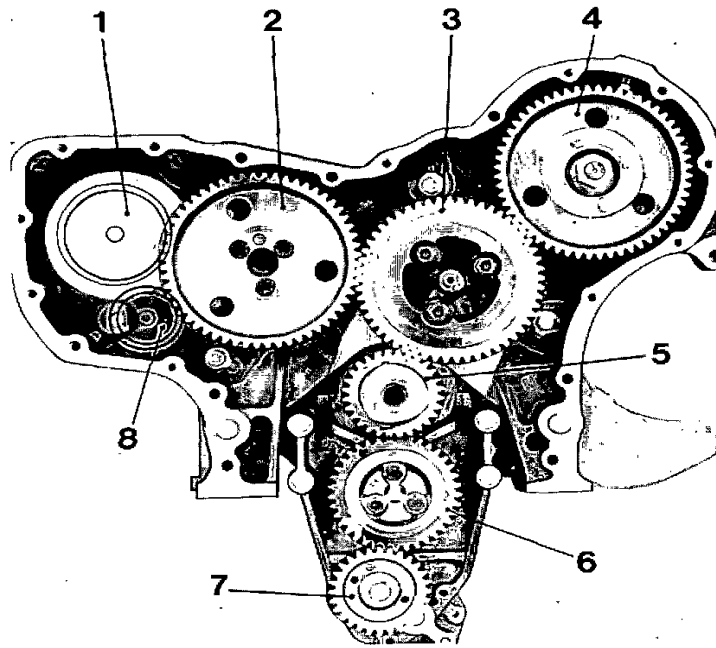

Fig. 30. Timing gears
**60 series:** Apart from the camshaft, the camshaft drive also drives the sea-water pump drive gear (marine engines), as well as air compressor, if fitted (optional equipm., industrial engines). The servo-pump, if fitted (optional equipm.), is also driven by the camshaft drive gear. See fig. 30.
**70 series:** Apart from the camshaft, the camshaft drive also drives the sea-water pump drive gear as well as the drive output for the alternator and coolant pump (marine engines). The drive output is pressure lubricated by means of a pipe. Any servo-pump and air compressor fitted, (optional equipm., industrial engines) are also driven by the camshaft gear. On marine engines the optional servo-pump is driven by the injection pump drive gear. See fig. 30.